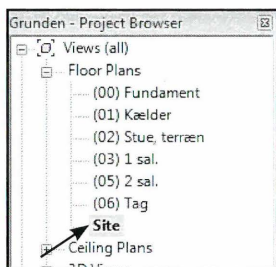

Fig. 10.48. Project Browser - Site.
- Stå i *Site* i *Project Browseren* (Fig. 10.48).